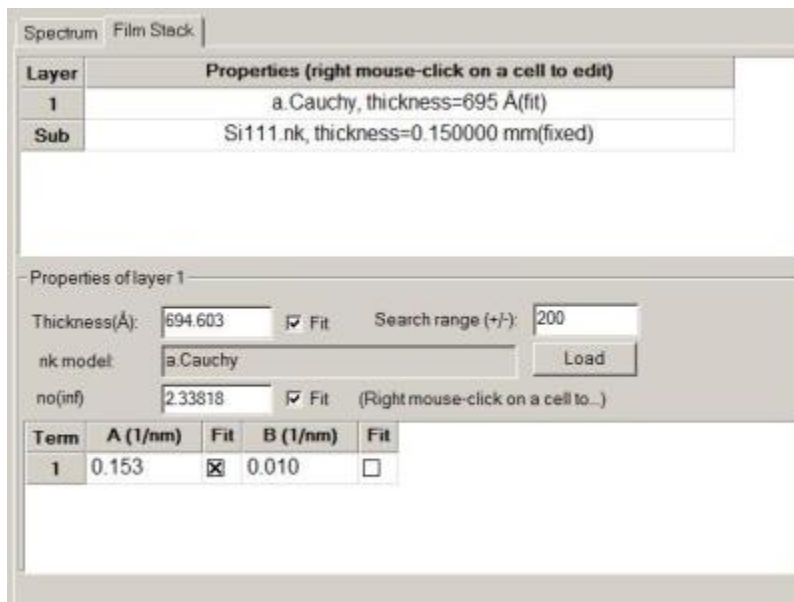

Fig. 123. Film stack with Cauchy model layer
3. Use the **Load** button to open the material selection dialog. Look for a file whose name is the *material* type with the extension **.Cauchy*. If it exists, select it. If it does not exist, select the file named "a.Cauchy." The film properties window changes to look like Fig. 123.